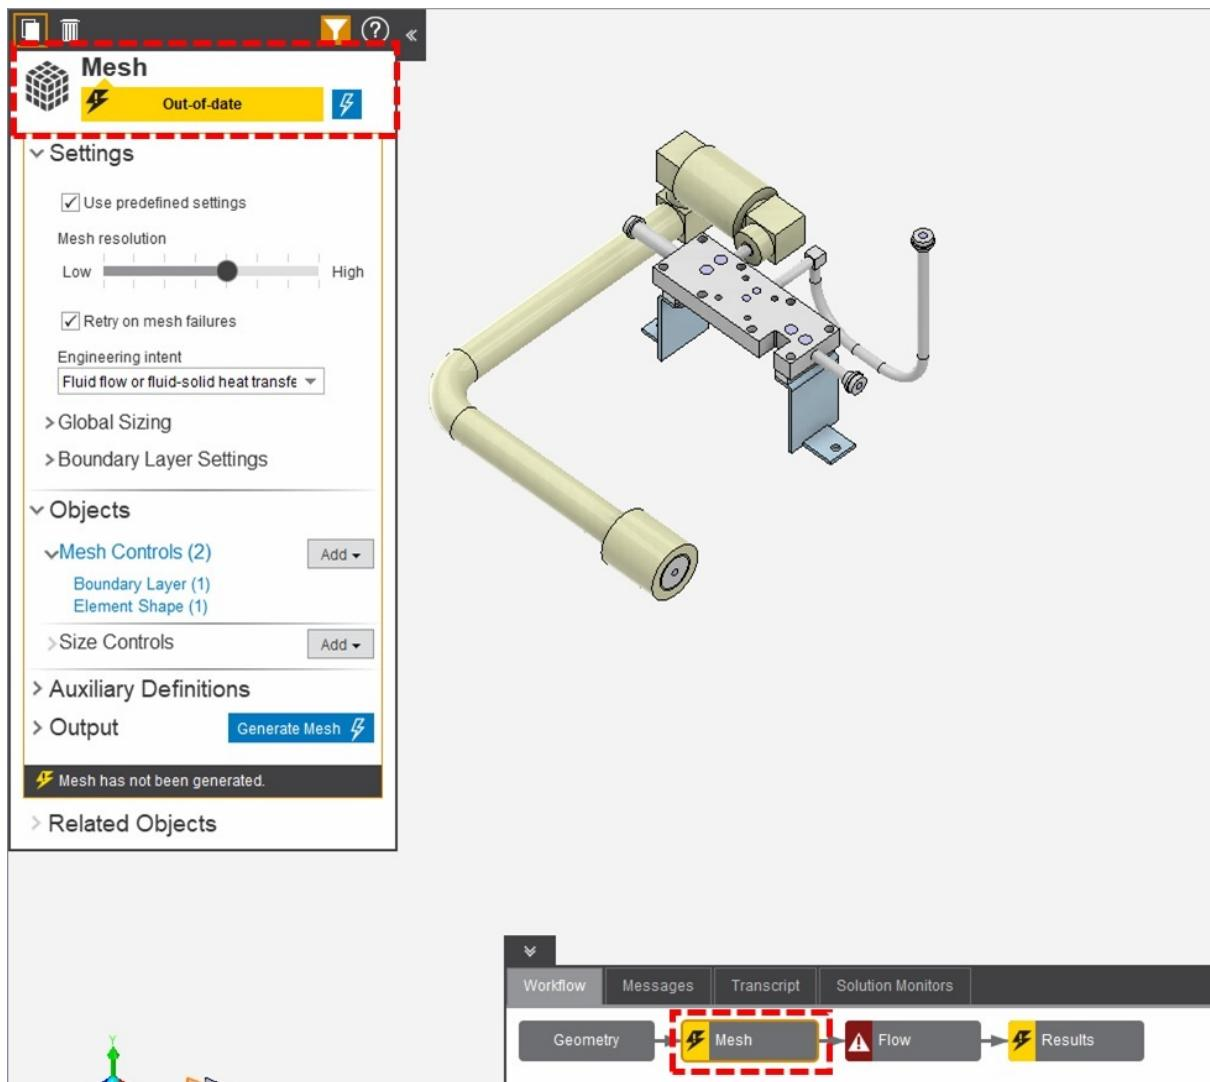

Figure 3.5:
4. The Mesh bubble will now have a Lightning Bolt next to it, as shown in Fig. 3.5. This indicates that we are now able to generate the Mesh. Click the Lightning Bolt in the Dialog area next to “Out-of-Date” to do so.